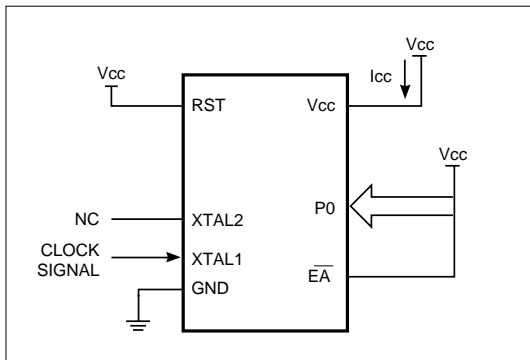

Figure 24. Active Mode
1. See Figures 24,25,26, and 27 for I_{cc} test conditions.